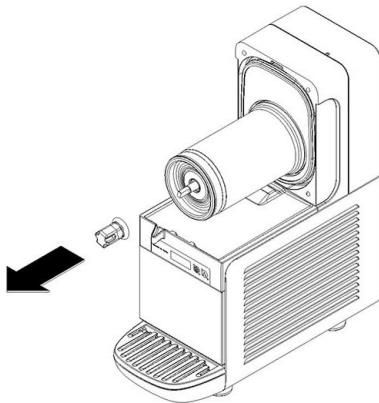

**figure 5**
- 3** Remove the external coil from the evaporator (see figure 5) and then the hexagonal coupling